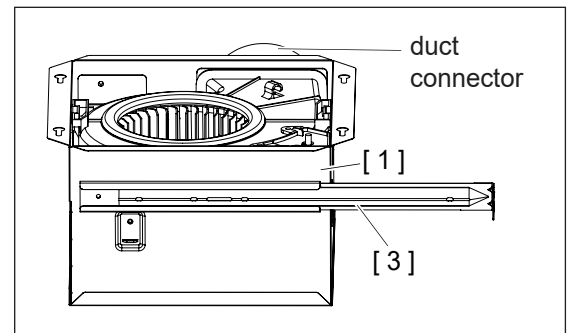

Fig 5
1. Insert one Long Bracket [ 3 ] to the slot at the backside of Fan Body [ 1 ] as figure shows. (Fig 5)